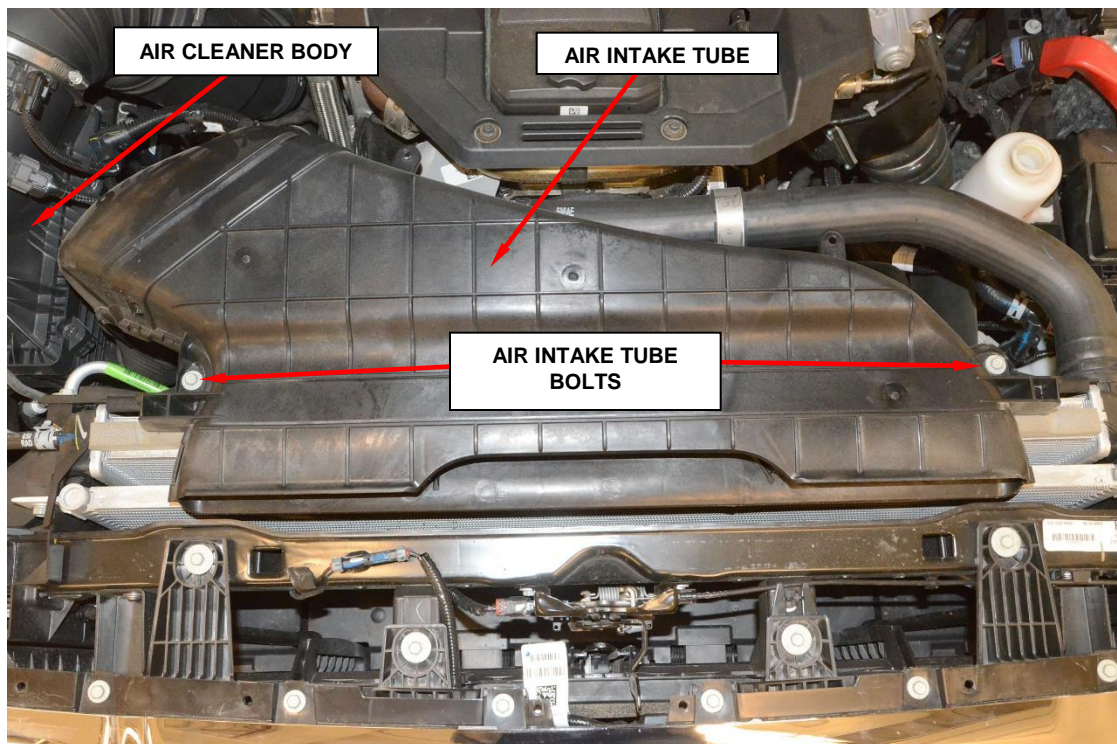

Figure 2 – Air Intake Tube
10. Remove the two bolts securing the intake air tube (Figure 2).
11. Lift up on the air cleaner body with intake air tube and remove and set aside (Figure 2).
21. Install the air cleaner body with intake air tube and push down to lock in place (Figure 2).